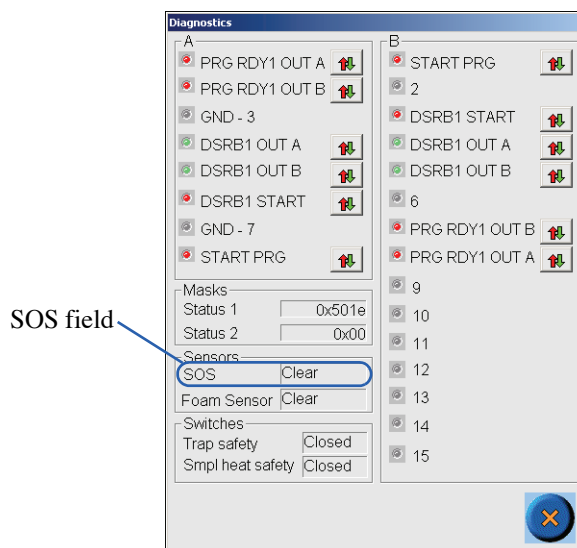

Figure 10.9. Diagnostics dialog box
10. Press the **Maint** icon to access the Maintenance screen. Press **Diagnostics** to access the Diagnostics dialog box (Figure 10.9).